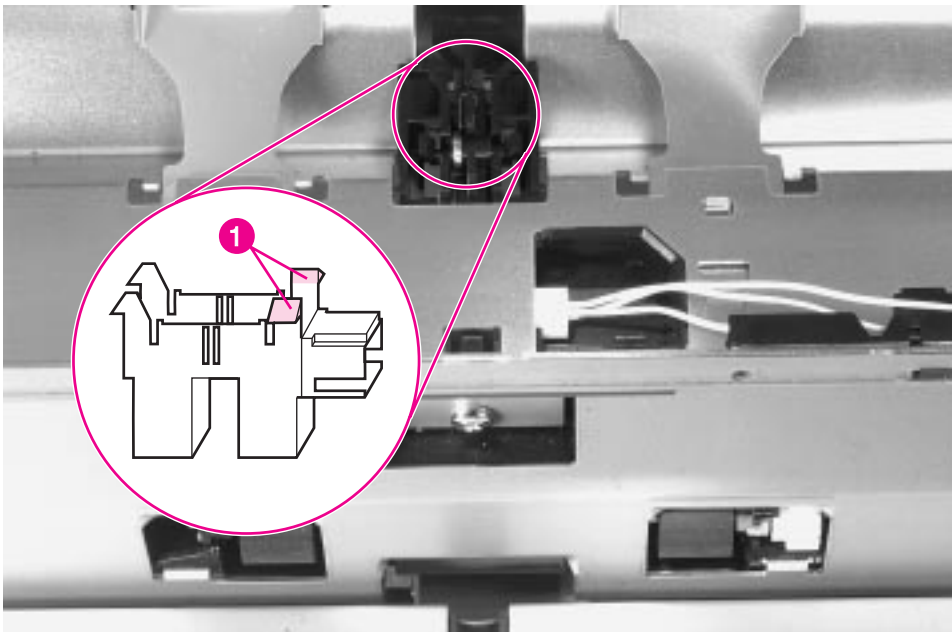

Figure 6-49 Paper Input Unit Sensor (PS2)
- 2 Release the retaining tabs (figure 6-49, callout 1) on the right end of the sensor, and rotate the sensor down to free the tabs on the left end.